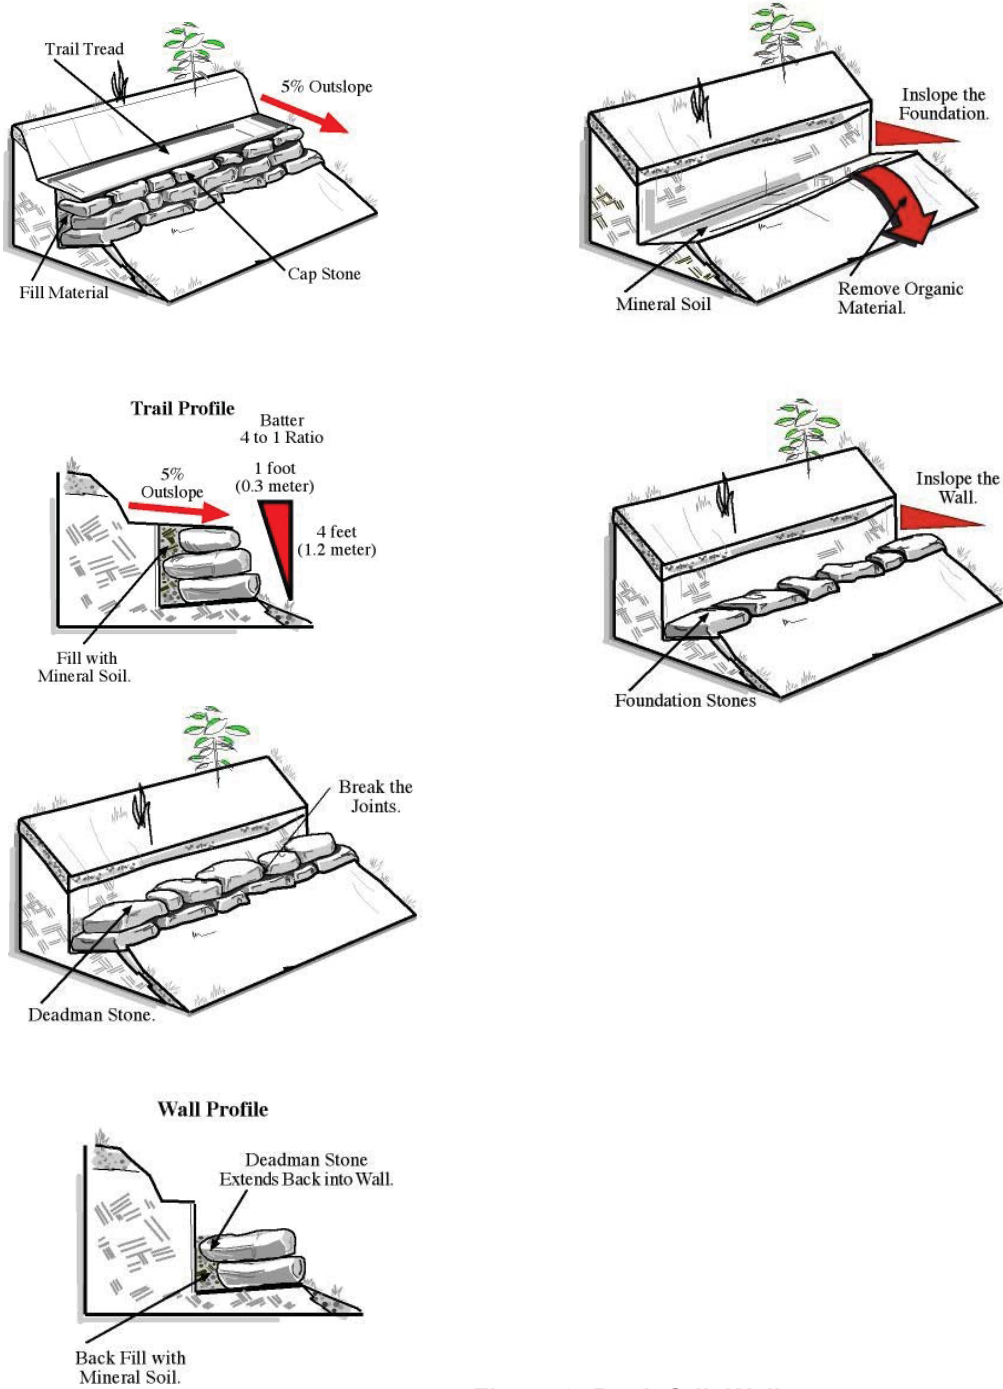

Figure 9: Rock Crib Wall
4.9 Rock Retaining Wall (figure 9)